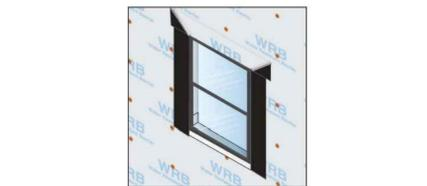

FIGURE 24
Remove the previously applied tape which holds the flap of the water-resistive barrier at the head. Allow the flap to lay flat over the flashing. Apply a new piece of sheathing tape or 100 mm (4 in) self-adhering flashing over the WRB flap and the entire diagonal cut made in the water-resistive barrier. The tape should be compressed against the WRB and the head flashing, which extends over the jamb (see Figure 24). Placing discontinuous lengths of tape across the width of the head seam between the WRB and the head flashing is acceptable, but may result in increased air infiltration around the WRB.
7.7.1 Door frame preparation. Use of self-adhering flashing that is designed for continuous integration between the door frame and the WRB is recommended for box frame and non-flanged doors. Alternatively, the door can be integrated to the WRB per Section 7.6.2. If the method per Section 7.6.2 is used, apply self-adhering flashing at the head of the rough opening and wrap into the rough opening return (see Figure 24). Ensure that the corners of the rough opening jamb/head interface are fully protected with self-adhered flashing. Apply sealant to any overlapping seams in the self-adhered flashing.
7.7.1.1 Door frame preparation. Use of self-adhering flashing that is designed for continuous integration between the door frame and the WRB is recommended for box frame and non-flanged doors. Alternatively, the door can be integrated to the WRB per Section 7.6.2. If the method per Section 7.6.2 is used, apply self-adhering flashing at the head of the rough opening and wrap into the rough opening return (see Figure 24). Ensure that the corners of the rough opening jamb/head interface are fully protected with self-adhered flashing. Apply sealant to any overlapping seams in the self-adhered flashing.
7.7.1.2 Door frame preparation. Use of self-adhering flashing that is designed for continuous integration between the door frame and the WRB is recommended for box frame and non-flanged doors. Alternatively, the door can be integrated to the WRB per Section 7.6.2. If the method per Section 7.6.2 is used, apply self-adhering flashing at the head of the rough opening and wrap into the rough opening return (see Figure 24). Ensure that the corners of the rough opening jamb/head interface are fully protected with self-adhered flashing. Apply sealant to any overlapping seams in the self-adhered flashing.